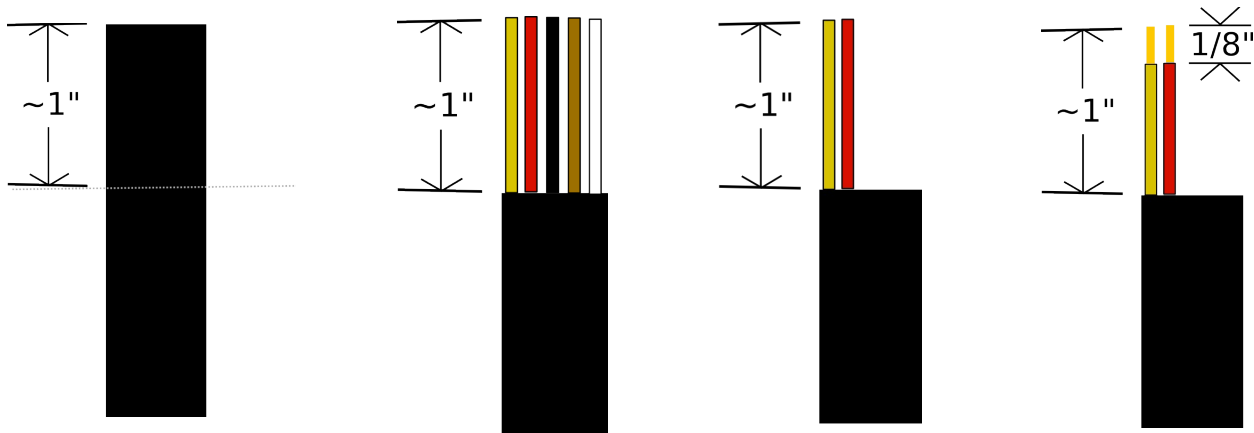

Figure C1: Stripping the projector wire
5. Examine the wires. If any are broken or too tangled to use, cut the entire wire. Strip off one inch of the black rubber shielding. Cut the brown, white and black smaller wires. Strip off an eighth of an inch of the red and yellow wires. Twist the copper wiring to make a stiff connection. See *Figure C1*.